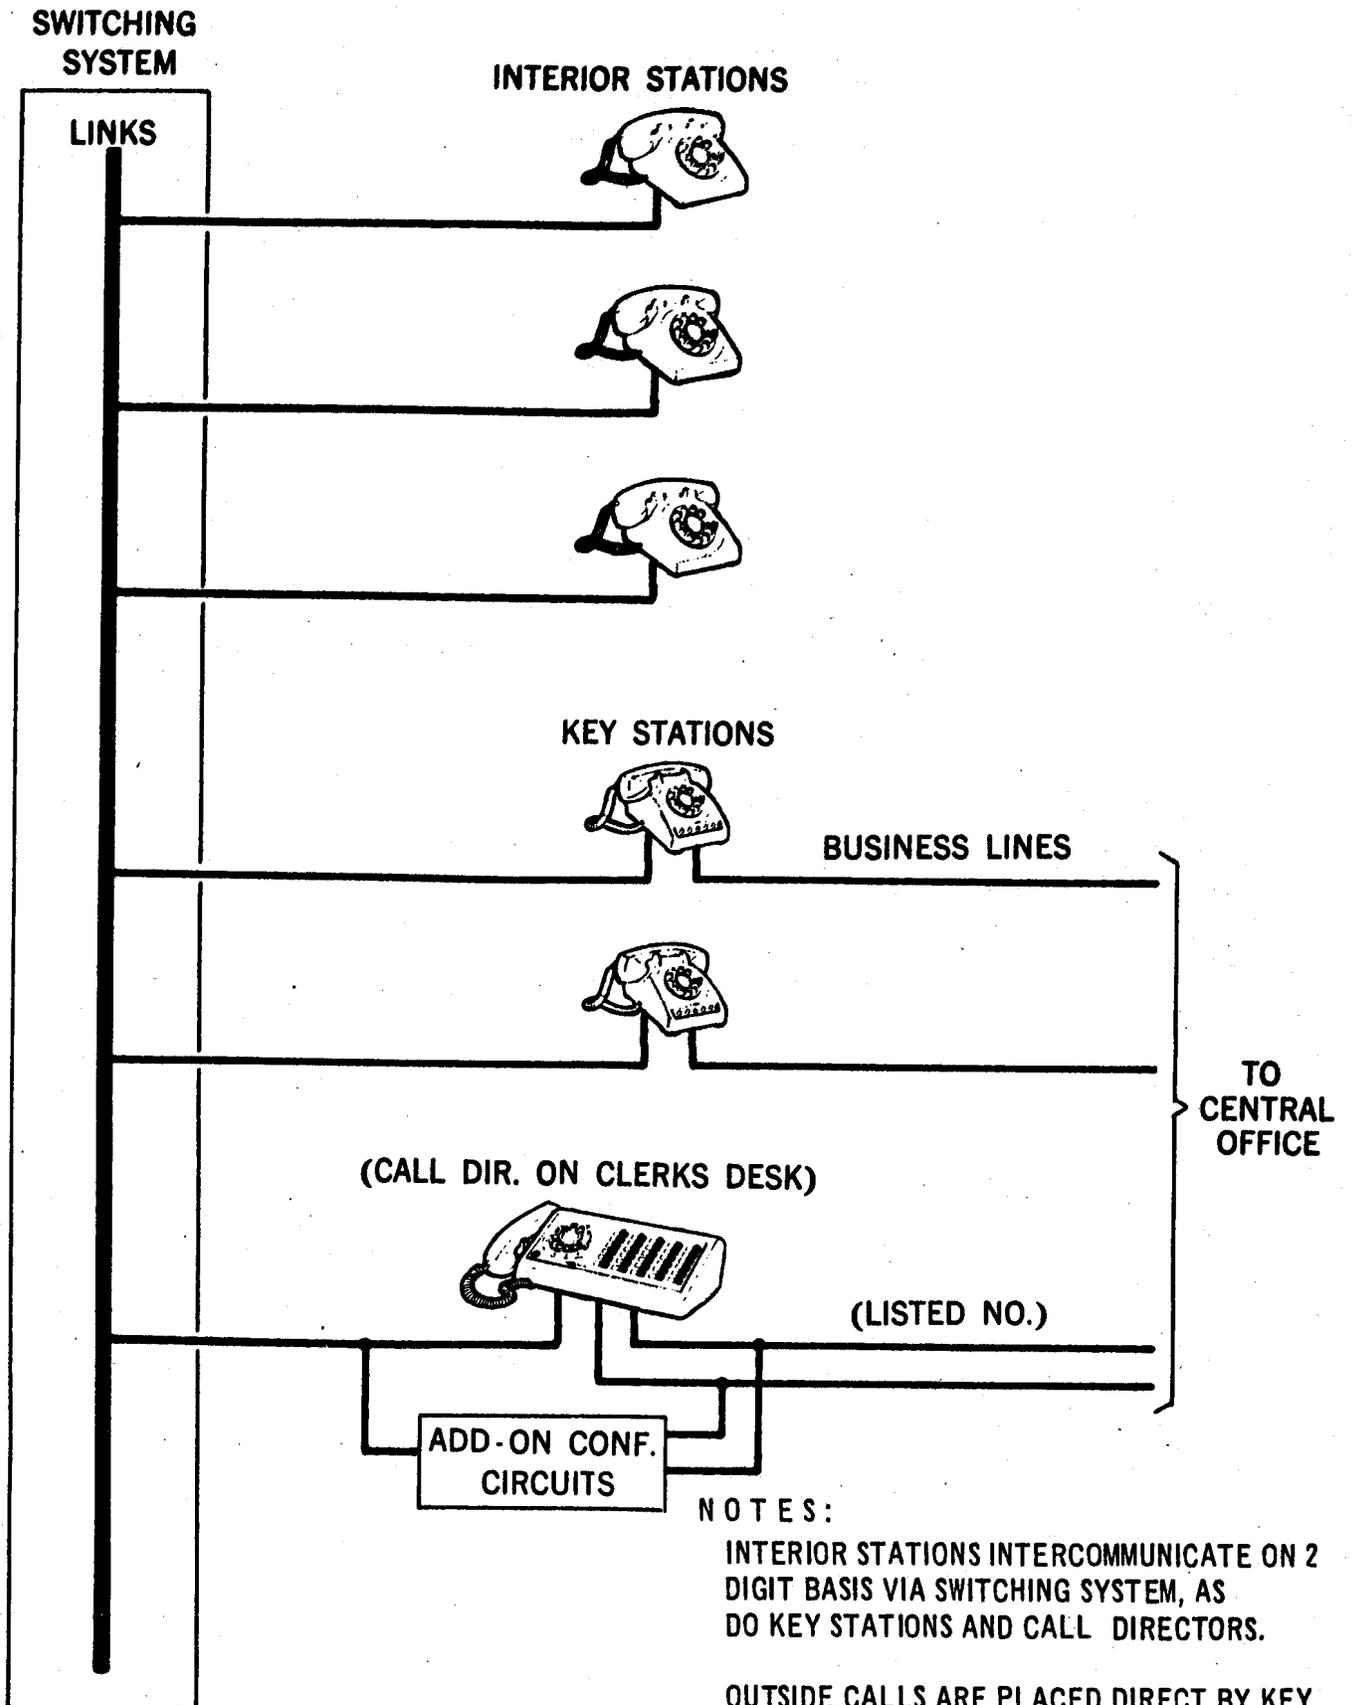

FIG. 1
- Figure 1. Diagram - Switching System No. 400